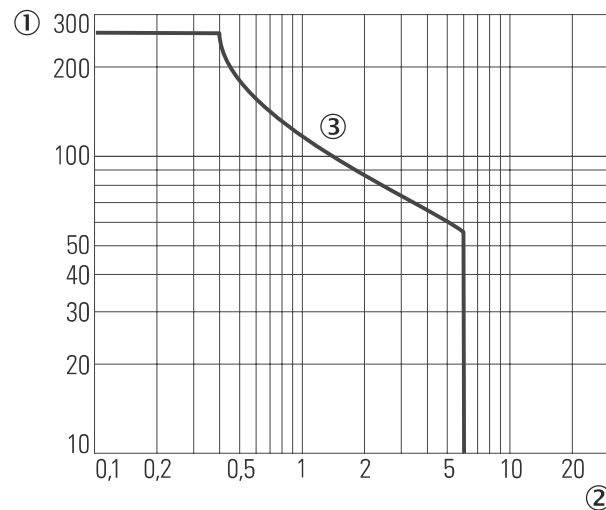
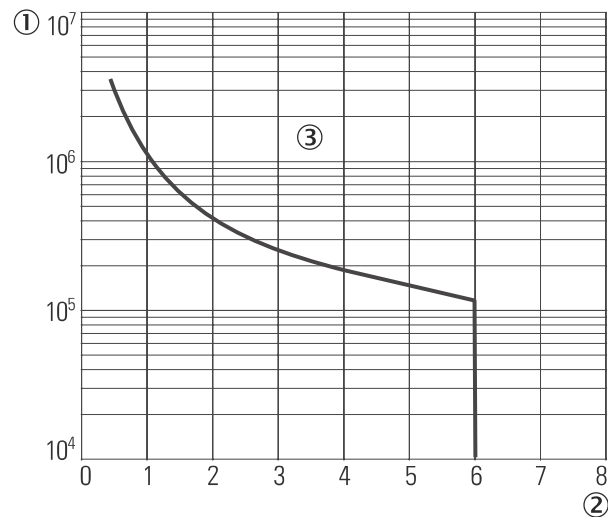

Figure 68: Maximum switching voltage with direct current, relay modules UE410-2RO/UE410-4RO
Figure 69: Electrical endurance of relay modules UE410-2RO/UE410-4RO
Electrical endurance	see figure 69, page 174
1) see figure 68, page 173 or see figure 69, page 174.